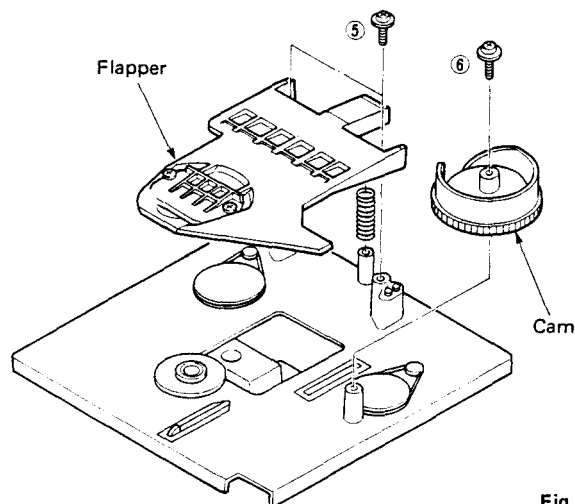

Fig. 5
- Remove 2 screws ( ⑤ ) fixing Flapper in Fig. 5 and then remove the Flapper.
- Remove screw ( ⑥ ) in Fig. 5 and then pull up the Cam.